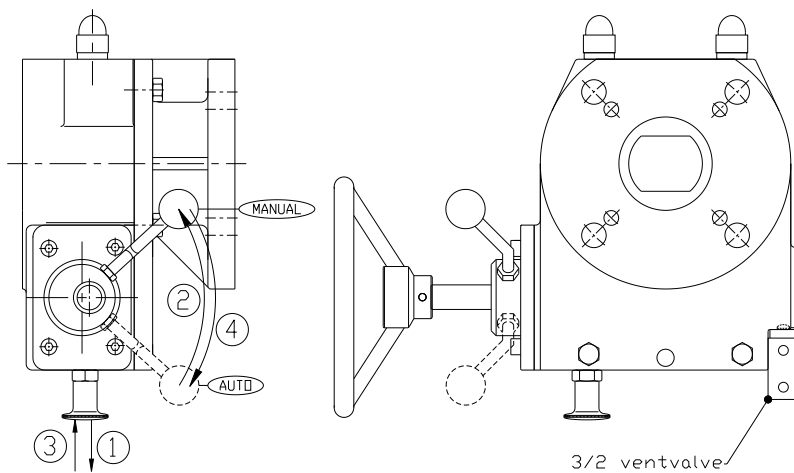

Figure 5 : ILG/D gearbox
2. Put the gearbox in the manual-mode by turning the handle 90 degrees counter clockwise (see 'operating' and/or figure 5: 1->2->3)
2. Prior to manual operation, the gearbox has to be put into manual mode. To achieve this, refer to figure 5 and follow the next points :
- i. Pull the knob outwards (1). Secure the knob in this position.
- ii. Turn the handle counter clockwise (2) and release the knob. Continue turning the handle until the knob falls back into locking position (3).